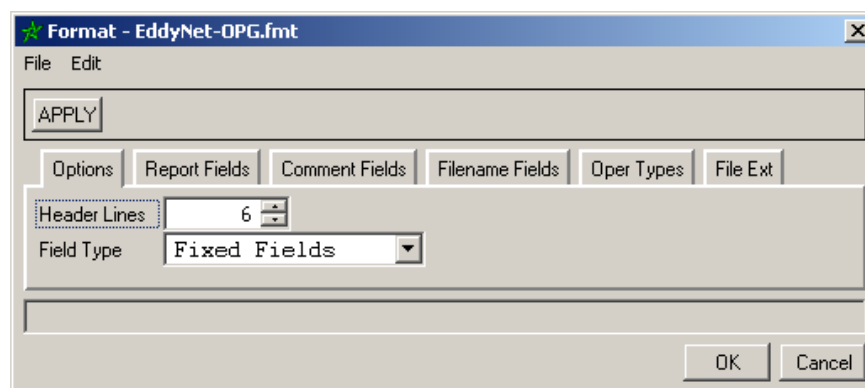

Figure 46. Util | Convert Report Dialog | Format Button | Format Dialog
Clicking the **Format** button in the upper left corner of the **Convert Report** dialog displays the **Format** dialog shown in Figure 46. Figure 46 has been edited (*shortened*) in order to show the **OK** and **Cancel** buttons on the dialog. The **Format** dialog is used to open, modify, and/or create report format conversion files (*fmt*). The menu bar, the tabs, and the buttons on this dialog will be discussed in this order next.
The **Options** tab on the **Format** dialog has two (2) settings as shown in Figure 46, which are discussed below.